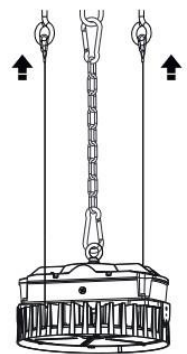

Figure 2
5. Figure 2 presents fixture suspension from the 2 each provided safety cables.